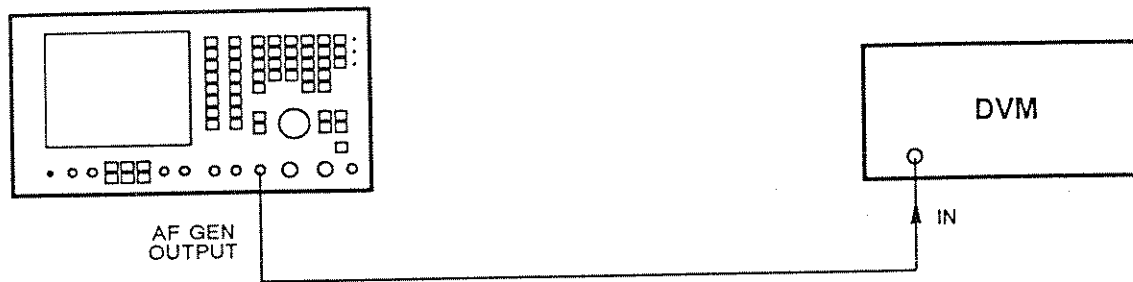

Fig. 6-12 Test equipment connections for AF generator output level accuracy
- (1) Connect the DVM to the AF GEN OUTPUT socket. See Fig. 6-12.
- (2) On the 2955B, set the MODE to AUDIO TEST. Ensure that GEN 1 is ON and GEN 2 is OFF. Press the TONES and AUDIO SETUP keys. Set the GEN 1 FREQ to 1 kHz, LEVEL to 1 V and SHAPE to SINE.
- (3) Check that the voltmeter reading is the same as the GEN FREQ setting $\pm 5\%$ ± 1 step.